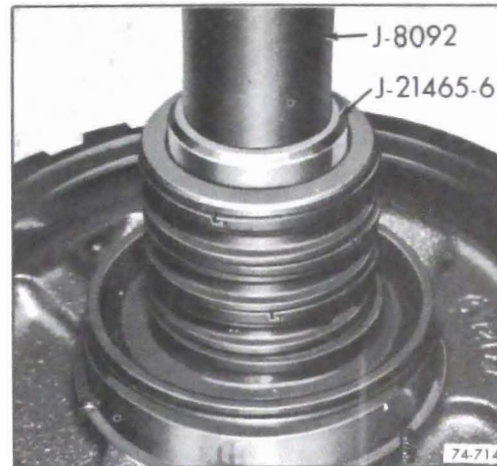

Figure 76-713
a. Using Tool J-21465-6, remove bushing. See Figure 76-713.